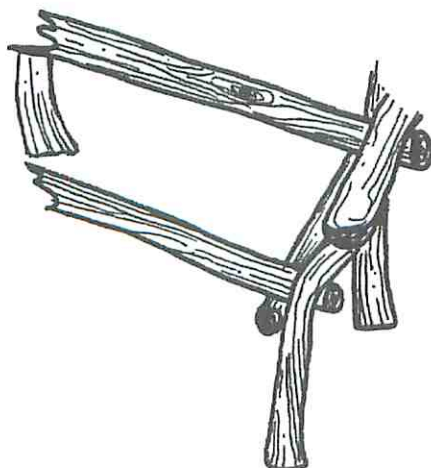

Figure 2
Position the front seat rail (G) on top of the side seat rails behind the front legs, as shown in Fig. 2. Clamp the rail to the legs, then step back and check that the seat is level and parallel to the ground – use a level if you wish. Adjust as necessary. When everything is level, notch, drill and lag bolt the front seat rail to the front legs.